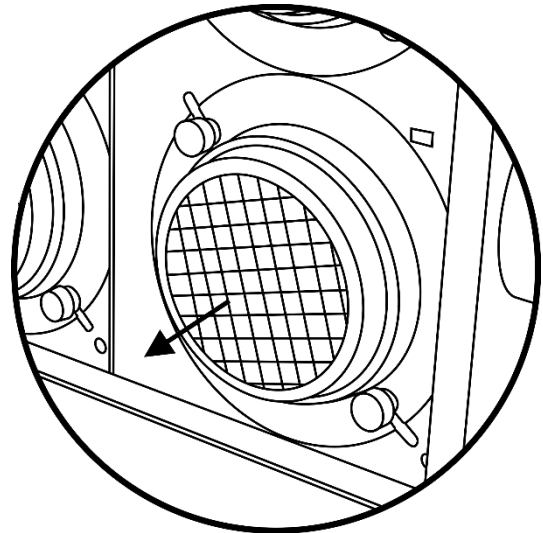

Fig. 04
- 02) Gently remove the metal lamp cover (fig. 04).